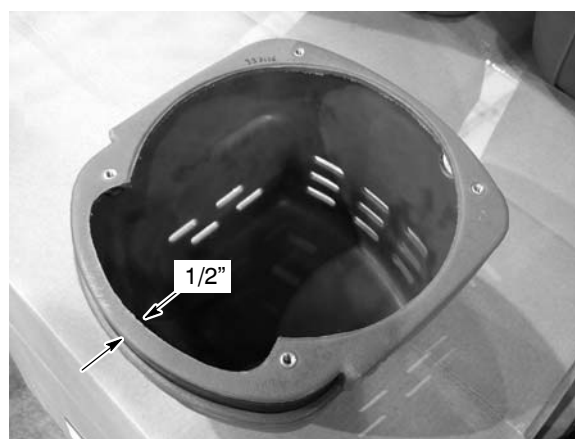

Fig. 4
4. To provide clearance for the capacitors, remove material from bottom side of base as shown (Figure 4).